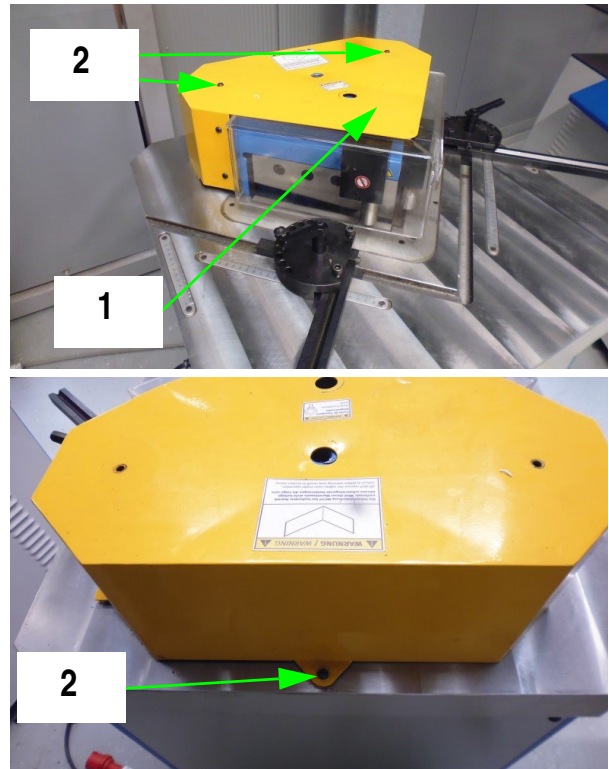

Fig. 15: Disassembling of the protective cover
Step 2: For removing the protective cover 1, you must first unscrew the three screws 2 (Fig. 15).
- Step 15: If there are no further activities in the area of the knives, replace the protective cover 1 (Fig. 15) and screw it tight.